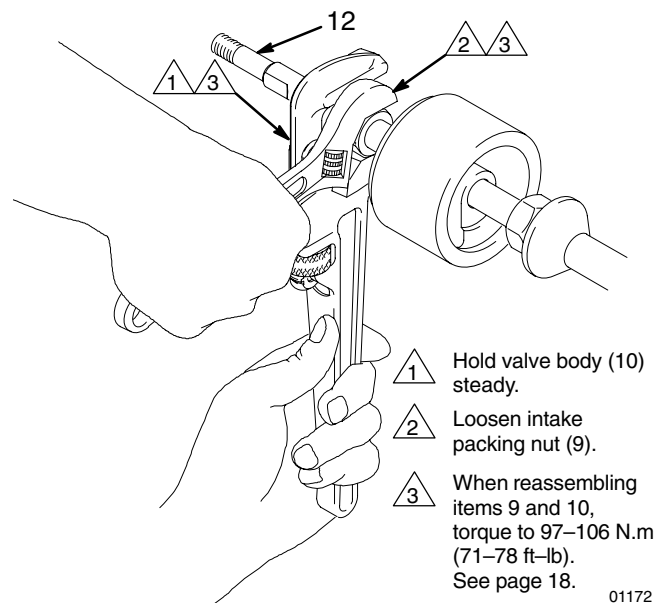

Fig. 7
9. Hold the valve body (10) steady with a wrench on the flats. Using an adjustable wrench, loosen the intake packing nut (9) to decrease tension on the priming piston rod (12). Now slide the intake valve assembly off the rod and set it aside. See Fig. 7.
8. Slide the assembled intake valve onto the priming piston rod (12), making certain that the packing nut (9) goes on the rod first. Push the valve assembly up the rod, stopping before it reaches the rod guide (18).
9. Hold the valve body (10) steady with a wrench while using an adjustable wrench to tighten the packing nut (9). See Fig. 7. Torque to 97–106 N.m (71–78 ft-lb). Use a hammer and brass rod to carefully drive the valve assembly further up the rod until it reaches the stop (VS).
10. Remove the displacement rod (1) from the vise. Place the cylinder (4) sideways in the vise with soft jaws.